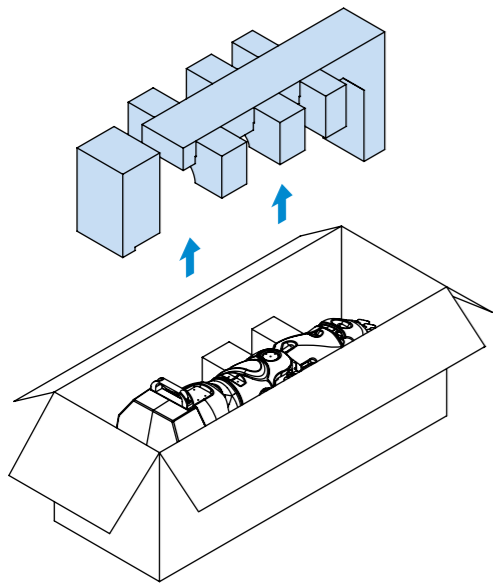

Figure 10.
2. Remove the upper part of the polyethylene foam logement (Figure 10)